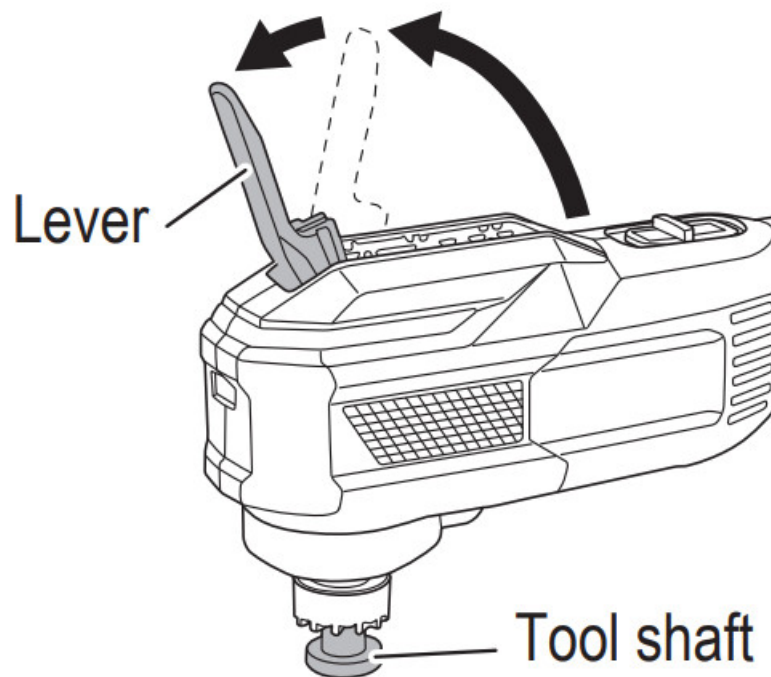

Fig. 8
(1) Pull the lever up. (Fig. 8)